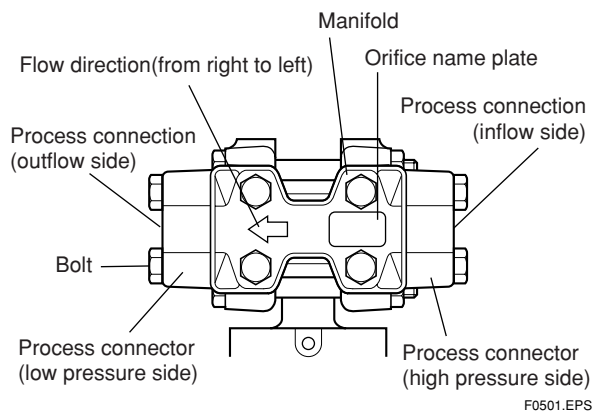

Figure 5.1.1 Manifold and Flow Direction Indication
#### (1) Confirming the Process Fluid Flow Direction (Figure 5.1.1)